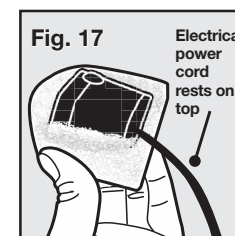
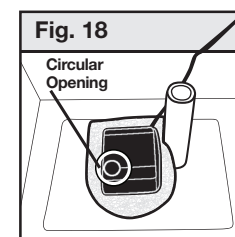

Fig. 17
Fig. 18
- Place the foam filter around the pump (**Fig. 17**). Take the bowl and place pump inside the square indentation. With the bowl positioned so the raised post is at the top right corner of the square, make sure the pump is positioned so that the circular opening on the top of the pump is positioned in the bottom left corner of the square (**Fig. 18**).